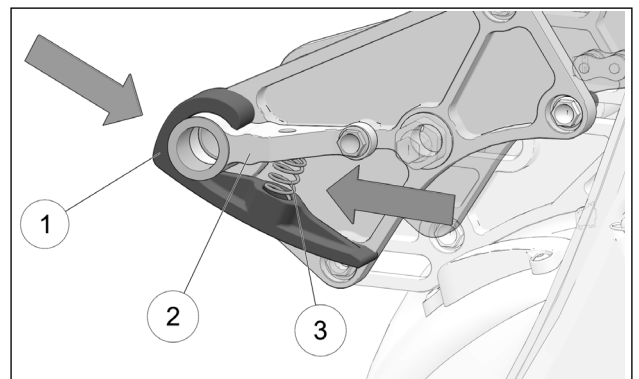

Figure 17
- Insert Chain tensioner (1) on mount adapter (2) installed on left side of Bike mount. Apply pressure to insert guard on larger part of adapter. Next, insert the chain tensioner spring (3) in its seats, in the Chain tensioner and mount adapter. See Figure 17.